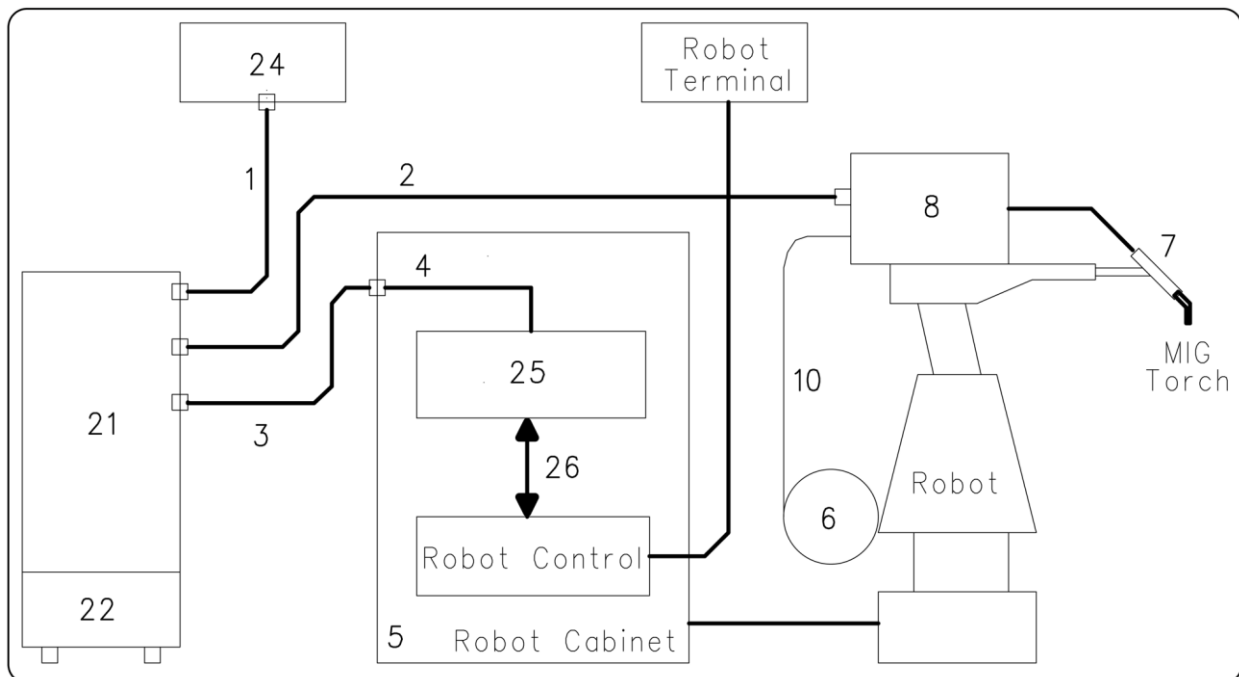

fig. 1
2.1 INSTALLATION (FIG. 1). 23
2.1 Installation (fig. 1).
It is made up of a Power Source, which may be equipped with a Cooling Unit, a Wire Feeder, a Control Panel, and a Robot Interface (see fig. 1).